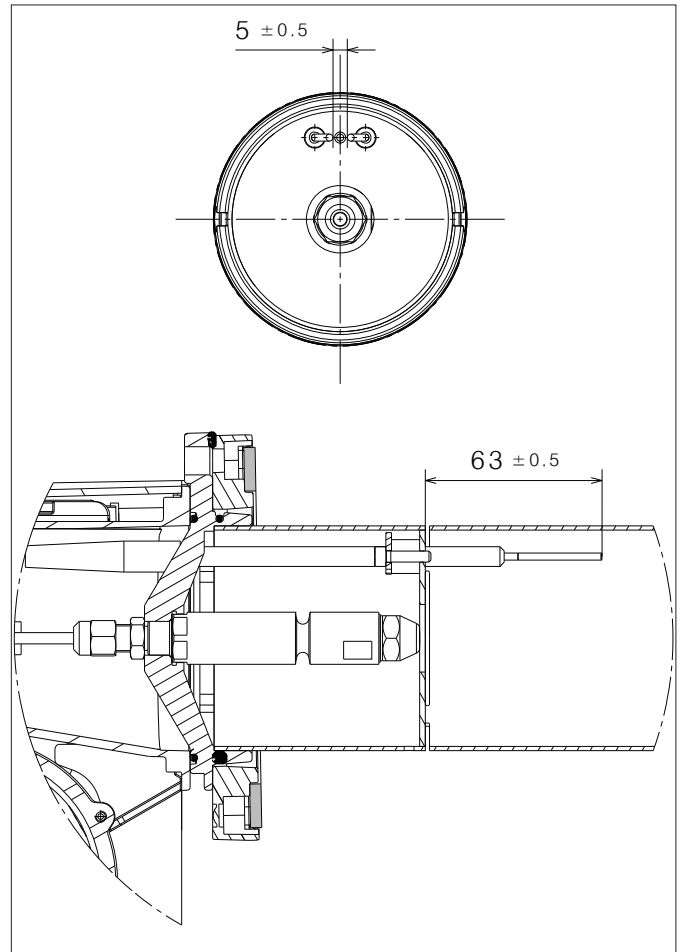

Figure 10-4: Ignition electrode settings
5. Check/adjust electrode setting. Refer to Figure 10-4.